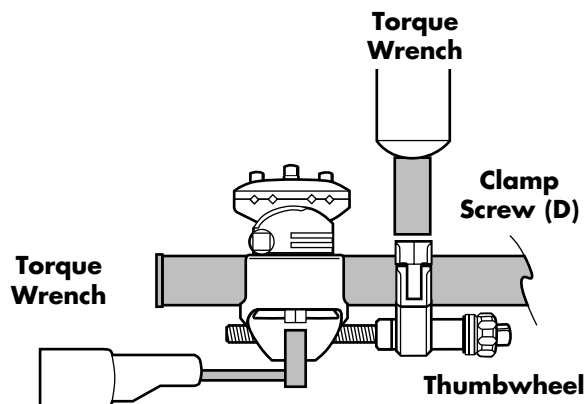

Fig.17
The Triax Carbon Tube requires an external compression/distraction device. To use the device, position the “chariot” over the back of the pin clamp and wrap the locking mechanism around the tube. Tighten the locking screw, utilising the wrench. Loosen pin clamp screw (D), utilising torque wrench (Fig.17). Compression or distraction can be useful when finetuning the reduction. One revolution of the Thumbwheel provides for 1mm of compression or distraction. The external compression/distraction device can then be removed or left on. In either case, retighten the pin clamp screws to proper torque once finished with adjustment.